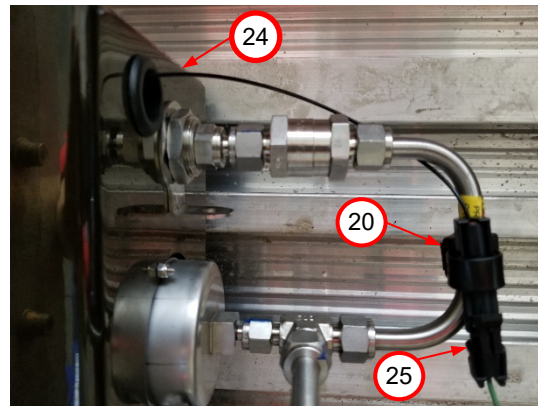

Figure 23.
17. Attach chassis harness driveaway protection (DAP) circuit connector (25) to fuel fill panel (24) dust cap DAP circuit connector (20). *Figure 23*